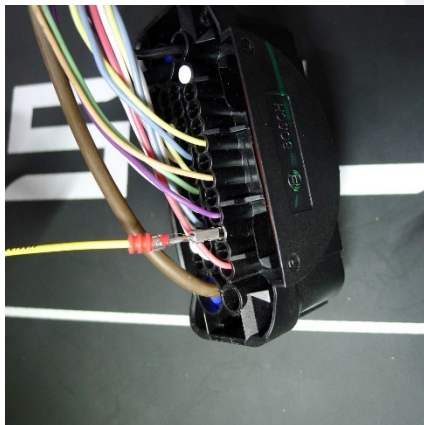
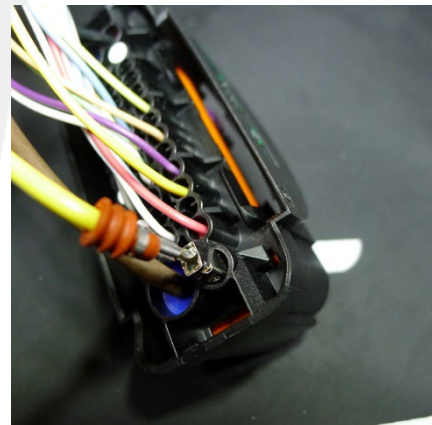

Figure 19
Figure 20
18. Insert the smaller terminal of the jumper into receptacle 28 (Figure 19) and the larger terminal of the jumper into receptacle 25 (Figure 20).